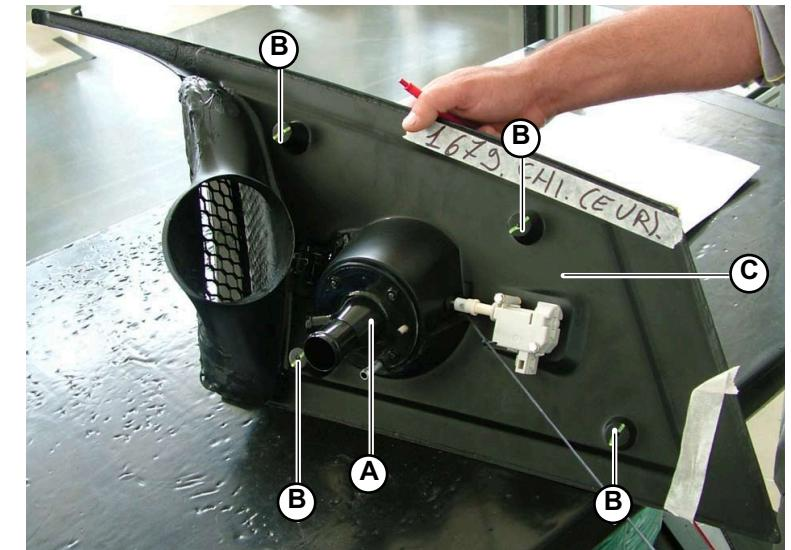

Fig.7
1. Disconnect the pipe connecting the fuel tank to the filler (**A-Fig.7**) (for right fender cover only).
2. Disassemble the cover by unscrewing the 4 nuts (**B-Fig.7**) securing the cover to the body.
3. Remove the cover (**C-Fig.7**).